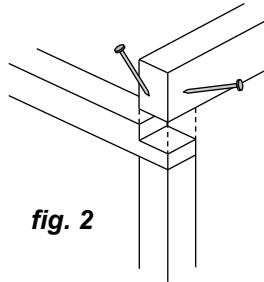

fig. 2
Step 2: Select Back and Front Base Plates 1.980m (Green), Back Top Plate 1.980m (Red) and Front Top Plate (70x45mm). With one End Frame lying on the ground, nail plates to frame, two 75mm nails per joint. Ensure Green joins to Green and Red joins to Red. See (**fig. 2**) for nailing detail on Top Front Plate (70x45mm).